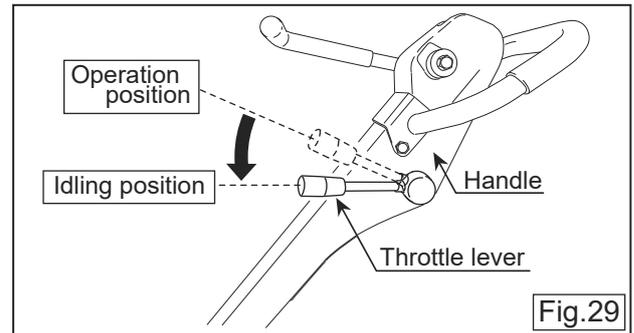

Fig.29
- If you want to suspend the work, to return quickly to the idling position the throttle lever.(Fig.29)